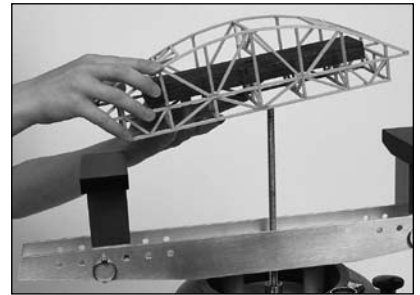

Figure 36
8. With the block in place, slide the bridge over the threaded shaft onto the span columns (Figure 36).